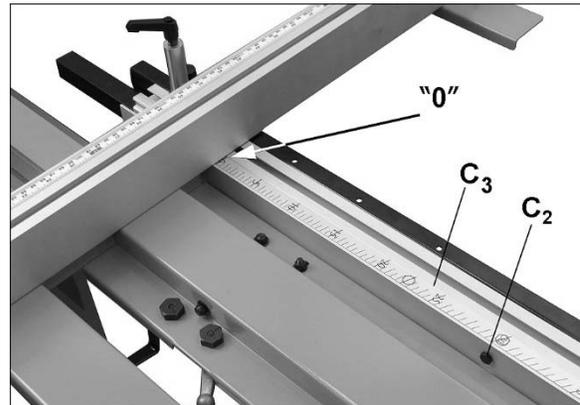

Figure 8-6
6. Loosen screw (C2, Figure 8-6) on angle rail and slide angle scale (C3) until zero is aligned with vertical face of fence.